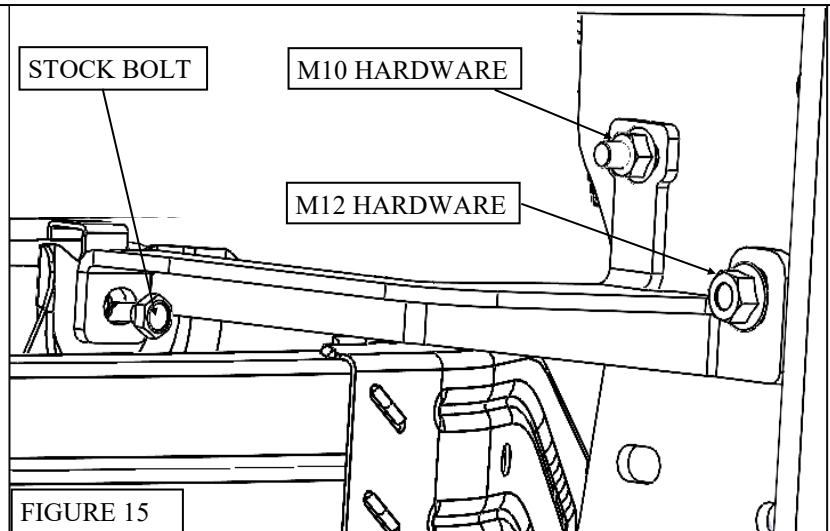

FIGURE 15
19. Remove the stock bolt shown in **Figure 15** and save it to be used in the next step.
20. Place the upper brackets into the holes and install them using the previously removed bolts. (**Figure 15**) leave them loose for now.
21. Using the M10 hardware (10, 11, and 12) and M12 Hardware (13, 14, and 15) install the upper brackets (8 & 9) to the push bumper. (**Figure 15**)